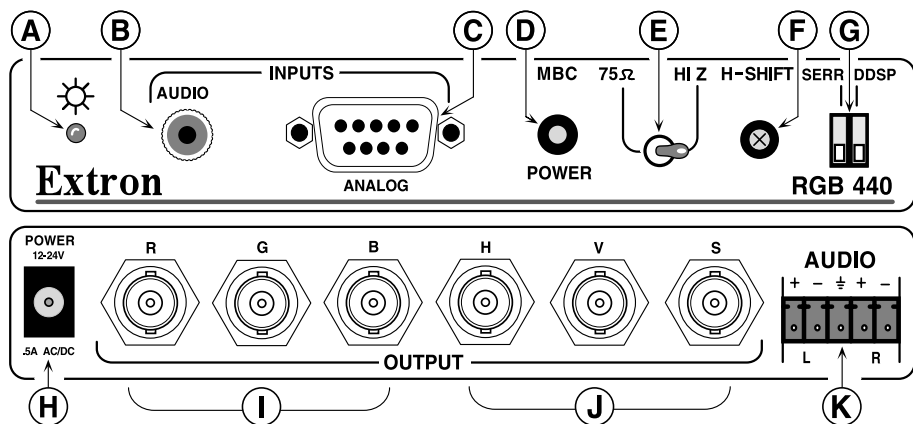

Figure 2
Descriptions of front and rear panel LEDs, controls and connectors follow. The letters to the left of the descriptions match the circled letters in figure 2 below.
The RGB 440 Interface has a single 3.5 mm, captive screw receptacle along the bottom right side of the rear panel ((K) on figure 2). The audio receptacle has five contacts, and is labeled for left (L), right (R), polarity (+/-), and ground.
The RGB 440 requires an external voltage source of 12 to 24 volts AC or DC (500 mA max). Polarity is not an issue, even if the power source is a DC voltage. Simply insert the power plug into the connector labeled POWER ((H) on figure 2) on the rear panel of the RGB 440. An optional 12 VDC external power supply is available from Extron (Part #70-055-01). A power plug (included with RGB 440) must be soldered to the power source wires. The procedure follows: